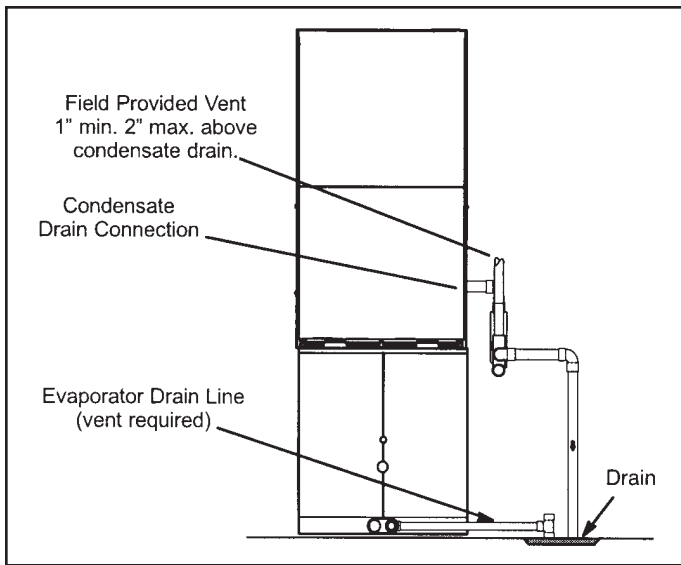
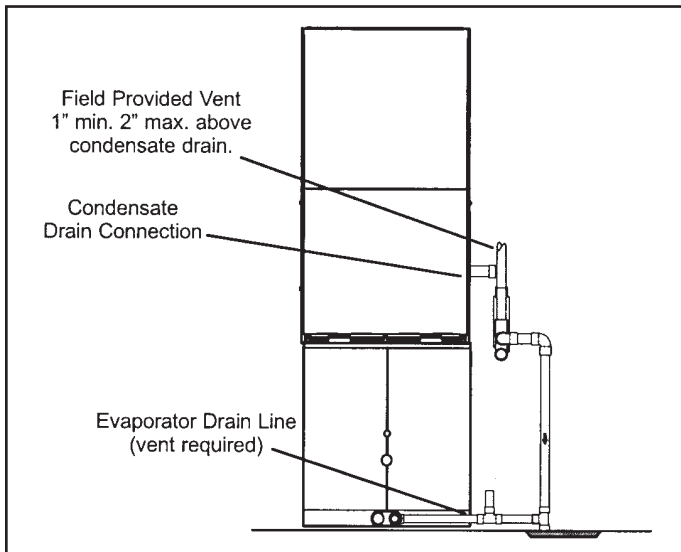

Figure 49. Evaporator Coil Using a Separate Drain
Figure 50. Evaporator Coil Using a Common Drain
5. Figure 49 shows the furnace and evaporator coil using a separate drain. If necessary, the condensate line from the furnace and evaporator coil can drain together. See Figure 50. The field provided vent must be a minimum 1" to a maximum 2" length above the condensate drain outlet connection.